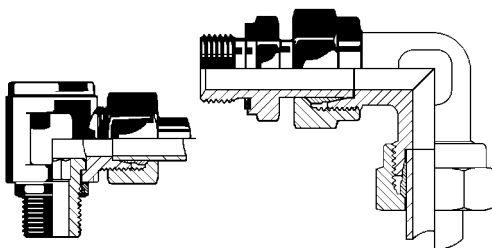

Fig. 5
- Use non-restrictive swivelling screw-fittings or adjustable screwed connections only (Fig. 5).